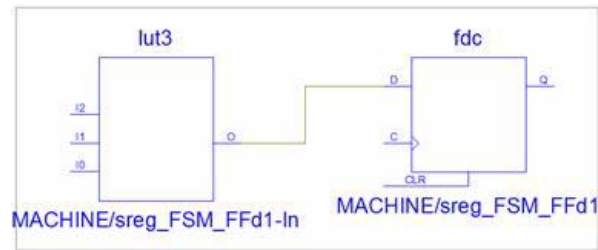

Figure 7-6: **New Schematic**
3. Press the Start Schematic icon to start new schematic. The new schematic should appear as shown in Figure 7-6. You may continue to further expand as described in earlier lab segments.